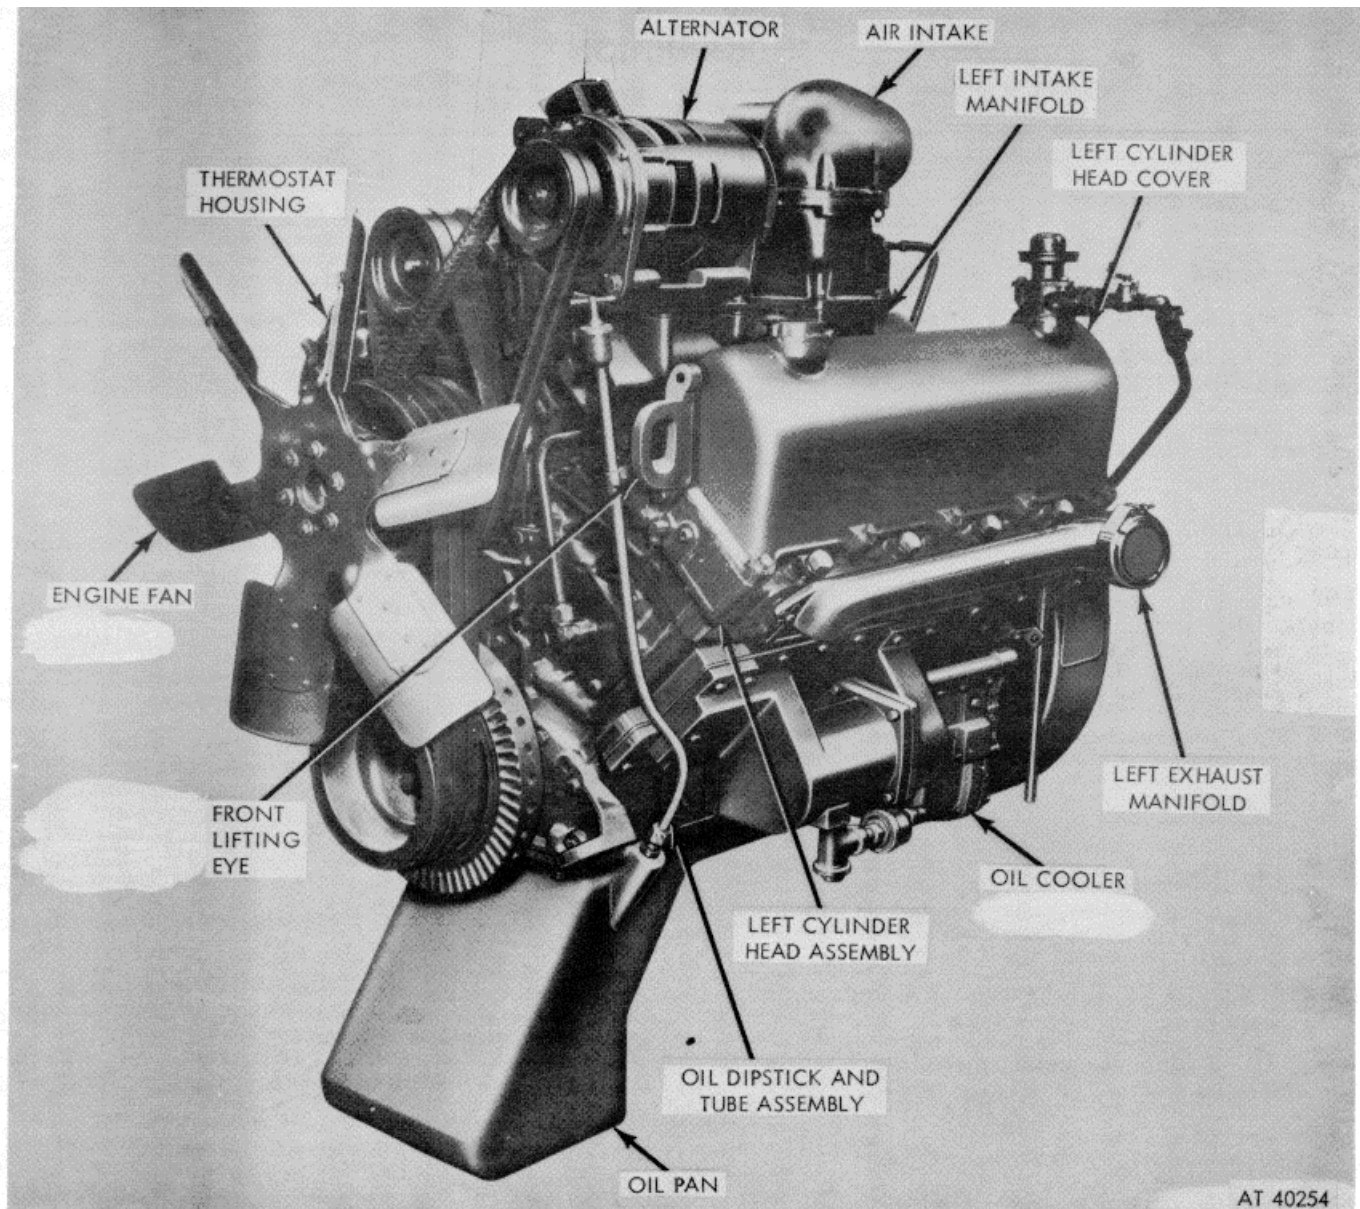

Figure 1-1. Model V8-300 engine assembly--3/4 left front view.
a. This technical manual contains instruction for direct and general support maintenance of the Cummins Diesel Engine, Model V8-300, (fig. 1-1 and 1-2). It contains descriptions of, and procedures for, disassembly, inspection, repair, rebuild, and assembly of the engine.
b. *Engine Assembly*. The model V8-300 engine (fig. 1-1 and 1-2) is a diesel eight cylinder V-type, valve in head, water cooled, compression ignition engine. The engine is rated 300 horsepower at 3000 rpm and will operate on diesel fuel.